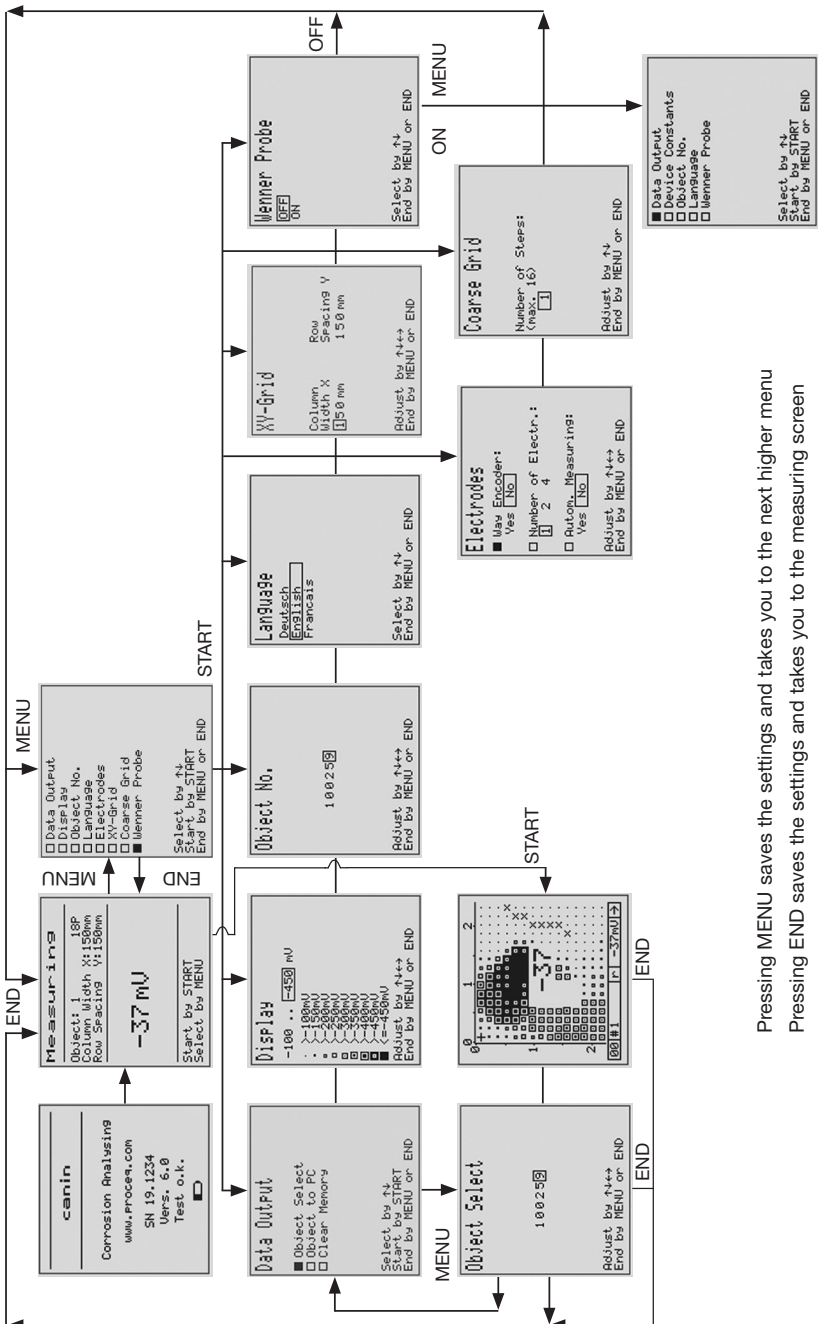
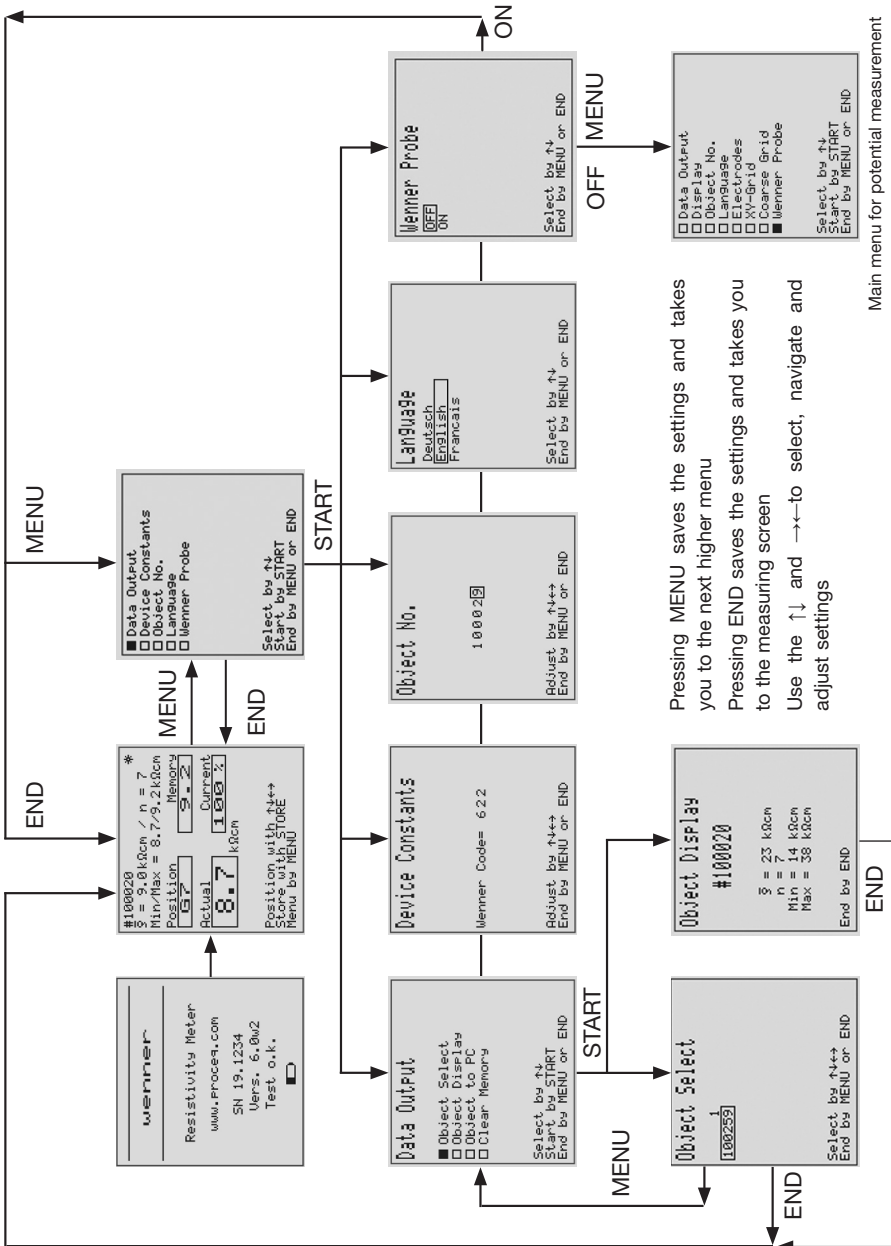
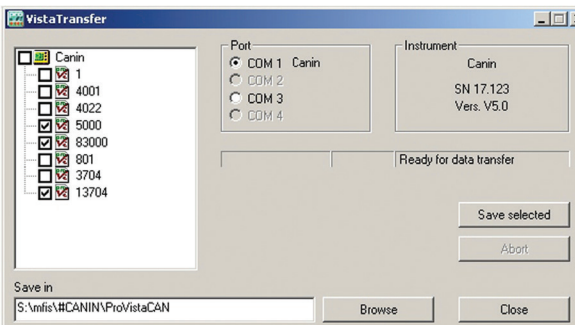

Fig 5.1 Menu Overview for Potential Measuring
Fig. 5.2 Menu Overview for Resistivity Measuring
Fig. 6.2: VistaTransfer Window
A total of 980 pages can be stored in the memory. The number of pages that are still available for use is shown in the top right hand corner of the measuring screen (Fig 5.1). (e.g. 491 P indicates 491 pages are still available.)
The diagrams in Fig 5.1 and Fig 5.2 show the menu structure for configuring the equipment for potential measurement and electrical resistivity measurement respectively. On start up, the measuring screen is shown. Press MENU to access the main menu for the mode selected.
5.4 Configuring the instrument for potential measurement (See Fig 5.1)
5.5 Configuring the instrument for electrical resistivity measurement (See Fig 5.2)
Connect the indicating device to your PC using the transfer cable (330 00 456) and the RS-232 – USB adaptor (390 00 542). In order to download data, the Data Output submenu must be visible on the indicating device. Select Menu “Data Output” (Fig 5.2) in the Canin” display device and press START. Click on VistaTransfer button to start the download programme. A dialog box appears (see Fig. 6.2).